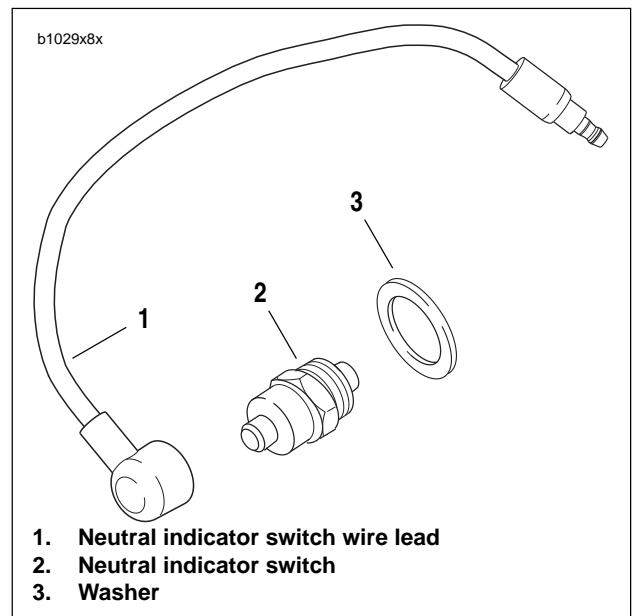

Figure 7-68. Neutral Indicator Switch
3. See Figure 7-68. Remove wire lead (1) from neutral indicator switch (2).
4. Remove neutral indicator switch and washer (3).
- a. Apply a light coating of LOCTITE THREADLOCKER 243 (blue) to **new** neutral indicator switch (1) threads.
- b. Install washer (3) over neutral indicator switch (2) threads.
- d. Connect wire lead (1) to switch.